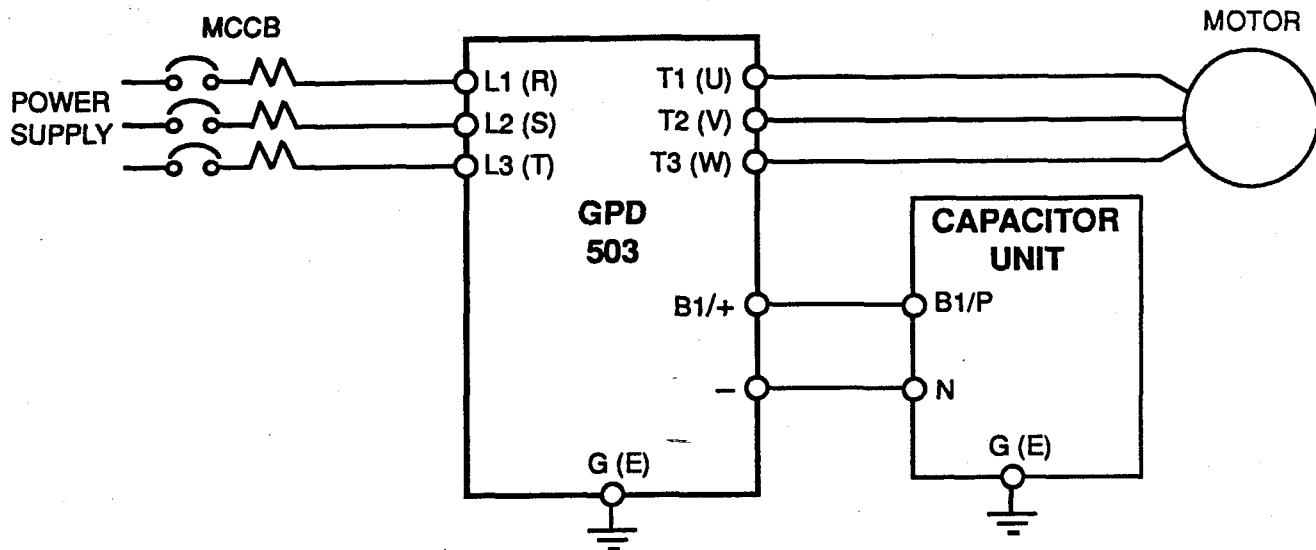

Figure 3. Wiring of Capacitor Unit and GPD 503
6. Refer to Figure 3 and complete wire connections from the capacitor unit to the GPD 503. Use wire 14 AWG (2mm²) or larger.